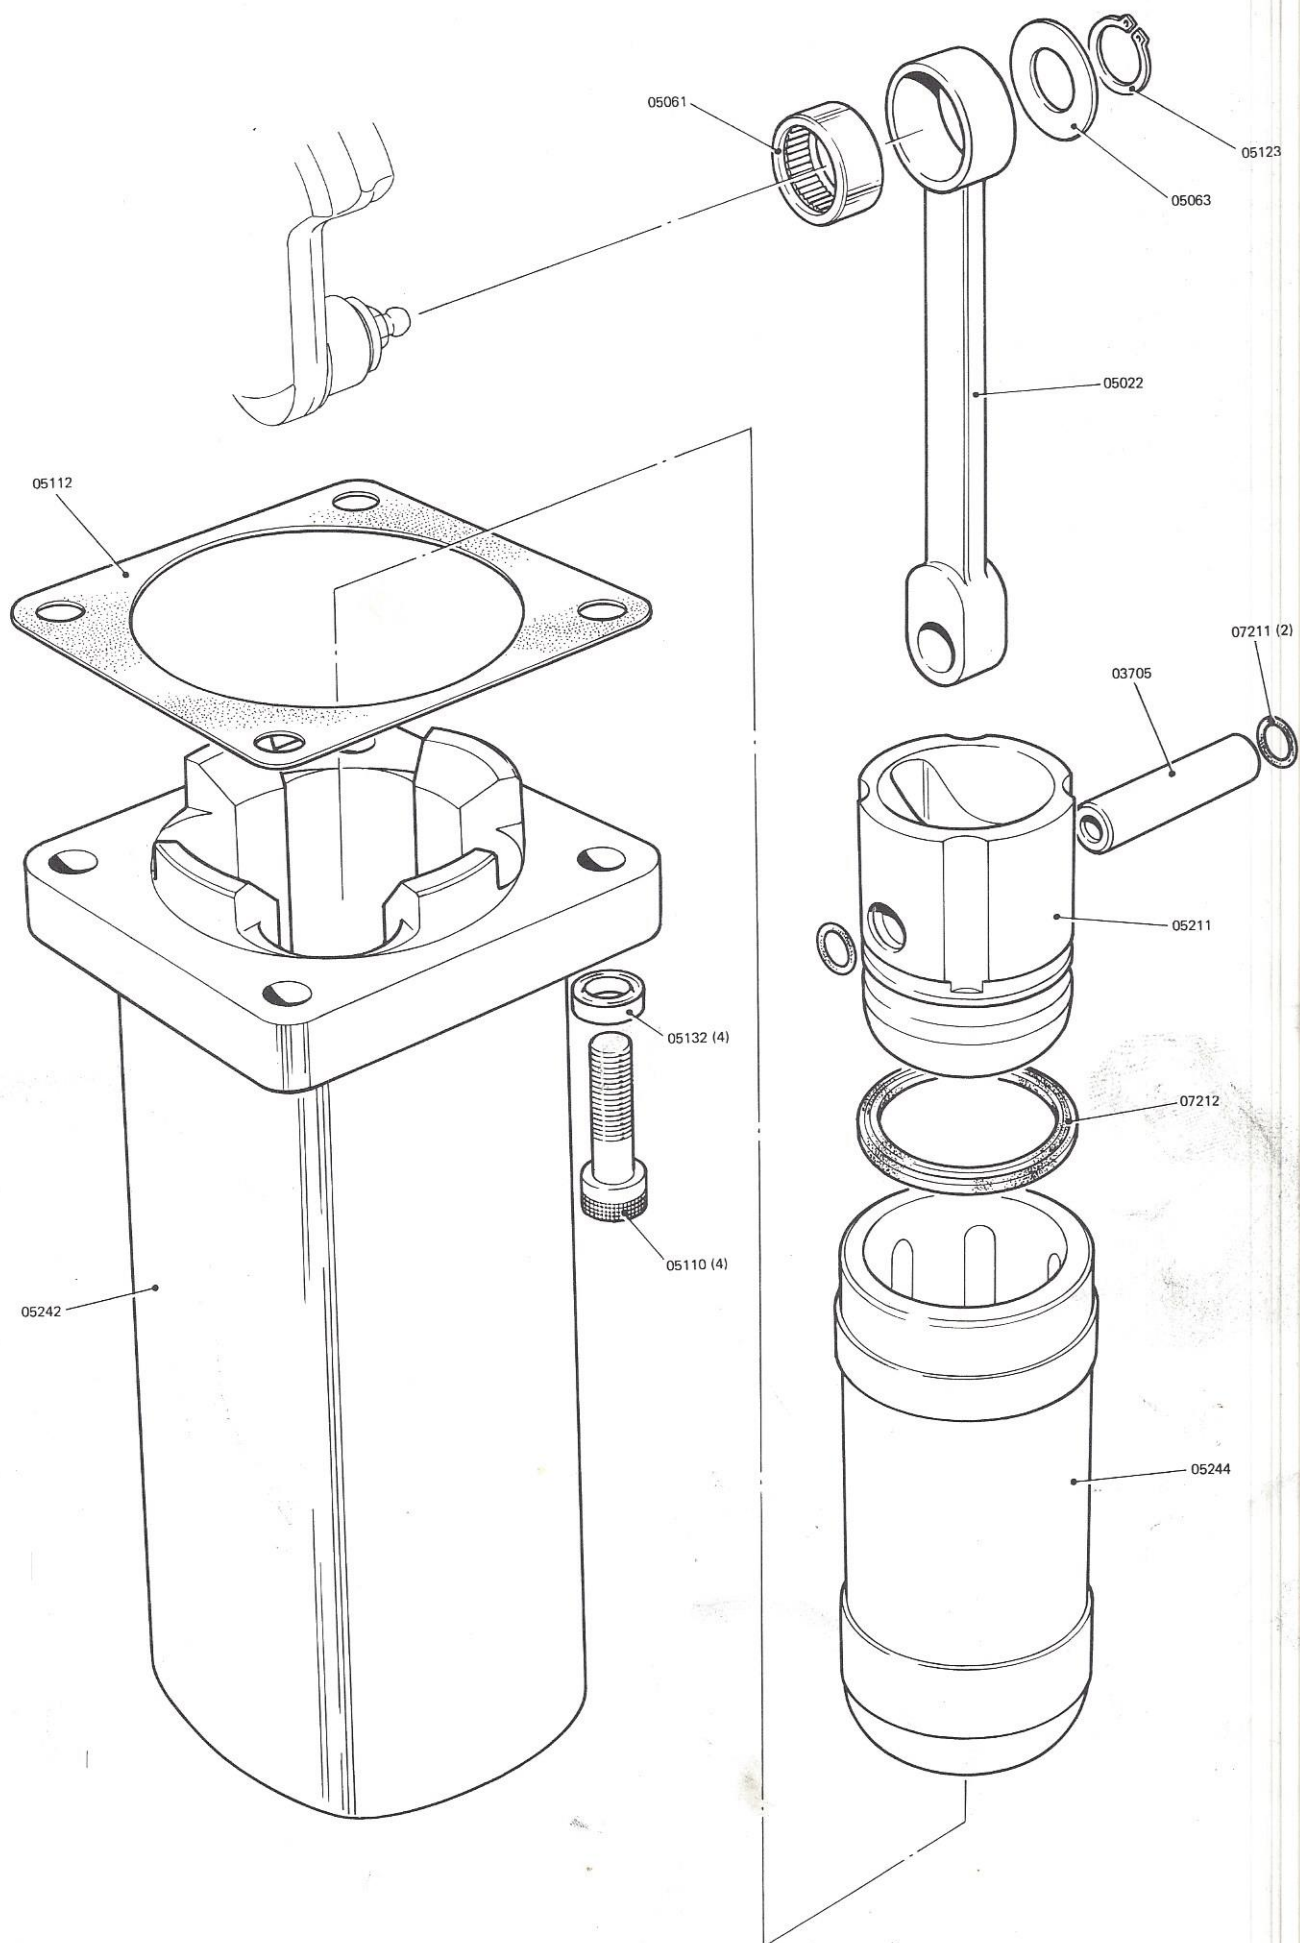

Figure 28 Hammer mechanism
17.4 Hammer mechanism (see Figure 28)
- 05110 Screw (4)
- 05132 Retaining Ring (4)